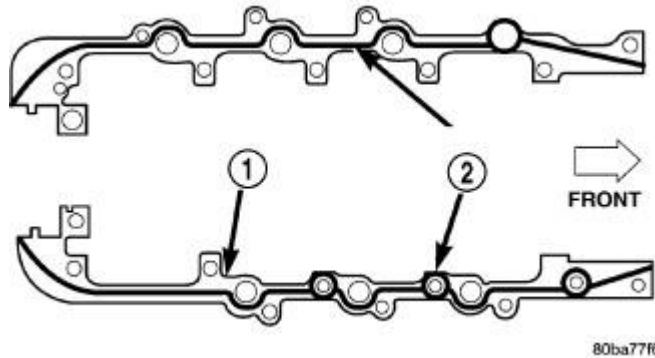

Fig. 145: Cylinder Block-to-Bedplate Sealant Bead Location
4. Apply a 2.5 mm (0.100 inch) bead of Mopar® Silicone Rubber RTV (2) to the cylinder block-to-bedplate mating surface (1) as shown in illustration. See **Fig. 145**.